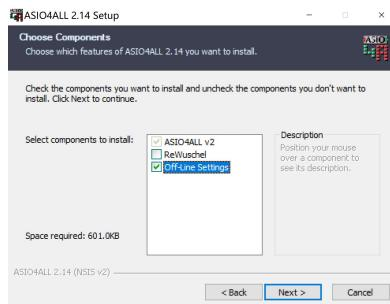

Figure 1.6: ASIO install
1. download the ASIO4ALL and follow the install instructions. Note to check the off-line setting box as Figure 1.6 below